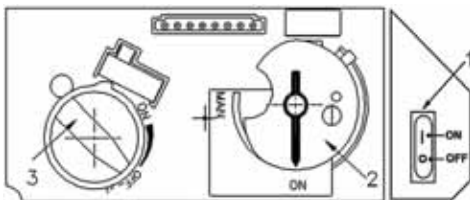
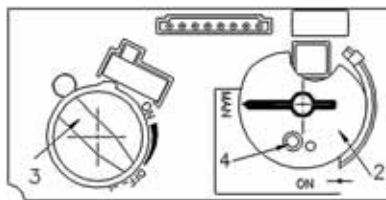
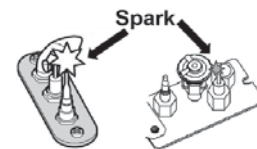

Fig 1
Fig 2
Fig 3
2. SET ON/OFF SWITCH (1) TO "OFF" POSITION.
- Wait five (5) minutes to clear out any gas, then smell for gas, including near the floor. If you smell gas, STOP! Follow "B" in the safety information above on this label. If you don't smell gas, go to the next step.
3. AUTOMATIC IGNITION (fig. 1): Locate the pilot (fig 3.) inside of firebox at Left Hand side.
- ON/OFF switch (1) in ON position, MAN-knob (2) in ON position; set Flame Adjustment knob (3) to lowest setting (∩);
- When the pilot is lit, the Flame Adjustment knob (3) will automatically rotate to the highest setting.
4. MANUAL IGNITION (fig. 2): With the window off, locate the pilot (fig. 3) inside of firebox at Left Hand side;
- ON/OFF switch (1) in ON position, MAN-knob (2) in MAN position;
- Set Flame Adjustment knob (3) to the lowest setting (∩);
- Push down the metallic core (4) with a pen or similar instrument; this will establish the pilot gas flow;
- Light gas at the pilot (5) with a match;
- Continue holding down metal core (4) for about 10 seconds; after release, pilot should remain lit;
- If the pilot will not stay lit after several tries, turn the gas control knob (3) to "OFF" (∩) and call your local service technician or gas supplier.